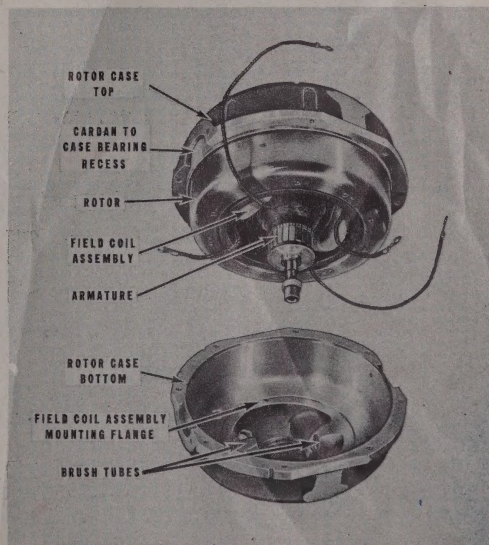

Fig. 15—Gyro Rotor and Rotor Case Assembly
2. This rotor assembly spins between ball bearings inside the gyro rotor case, shown in Fig. 15. A pair of field coils (Fig. 14) mounted in an iron housing energize two one-piece field magnets bolted to the housing. This stator assembly is fastened to the rotor case and fits into the space between the armature and the rotor.